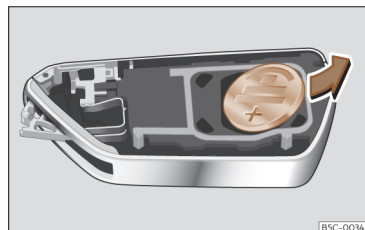

Fig. 65 Vehicle key: removing the battery.
- Remove the battery from the compartment with a suitable fine object >>> Fig. 65.
- Insert the new battery and press it into the battery compartment >>> ①.